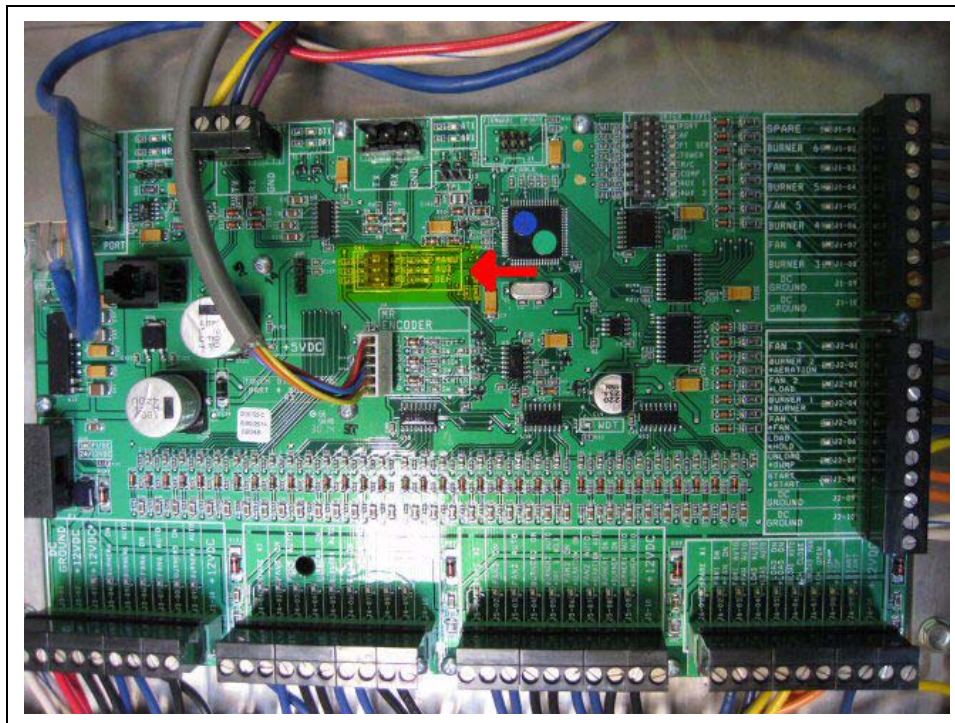

Figure 3A
1. Locate dipswitch on display I/O board. (See Figure 3A.)